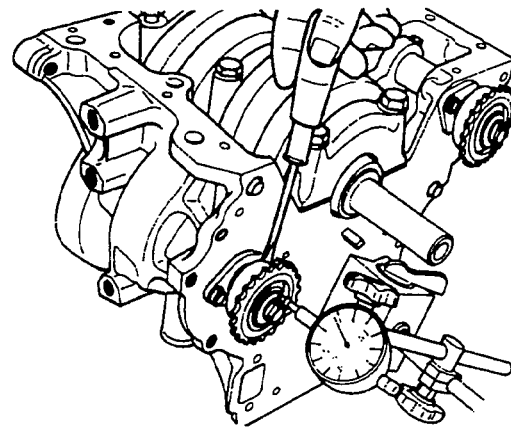

FIGURE 9-32. MEASURING THE BALANCER SHAFT END PLAY
4. Measure the balancer shaft end play. Attach a dial indicator and measure the end play (Figure 9-32). If the end play is beyond the service limit, check the thrust plate, sprocket and balancer shaft. Replace if worn.